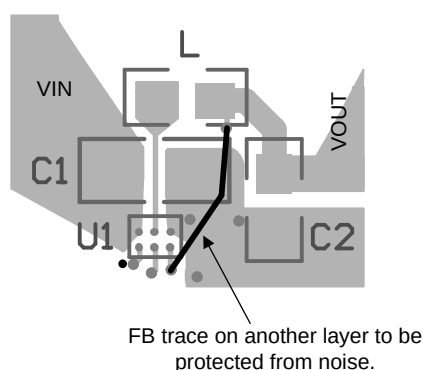

Figure 32. Feedback Trace
6. Route noise sensitive traces such as the voltage feedback path away from noisy traces between the power components. The output voltage feedback point should be taken approximately 1.5 nH away from the output capacitor. The feedback trace also should be routed opposite to noise components. **The voltage feedback trace must remain close to the LM3241 circuit and should be routed directly from FB to VOUT at the inductor and should be routed opposite to noise components.** This trace placement allows fast feedback and reduces EMI radiated onto the voltage feedback trace of the DC-DC converter (see Figure 32).